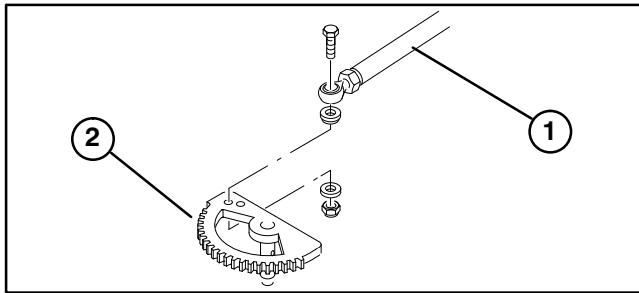

Figure 5
6. Remove capscrew, washers and locknut securing front end of steering rod to steering sector gear (4 wheel rear axle only) (Fig. 5). Re-position rod so curved end of rod is to the rear. Secure straight end of rod to steering sector gear with fasteners previously removed. Make sure a washer is on each side of steering sector. Tighten nut to 40–45 N·m (30–35 ft–lb).